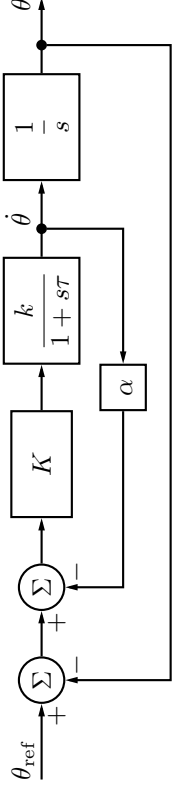

Figure 3.7a
3.7 Consider the servo system in Figure 3.7a with a DC-motor. Suppose that the angular velocity can be measured with a tachometer and let the control law be as in the block diagram. Let  $\tau = 0.5$  and  $k = 2$ .